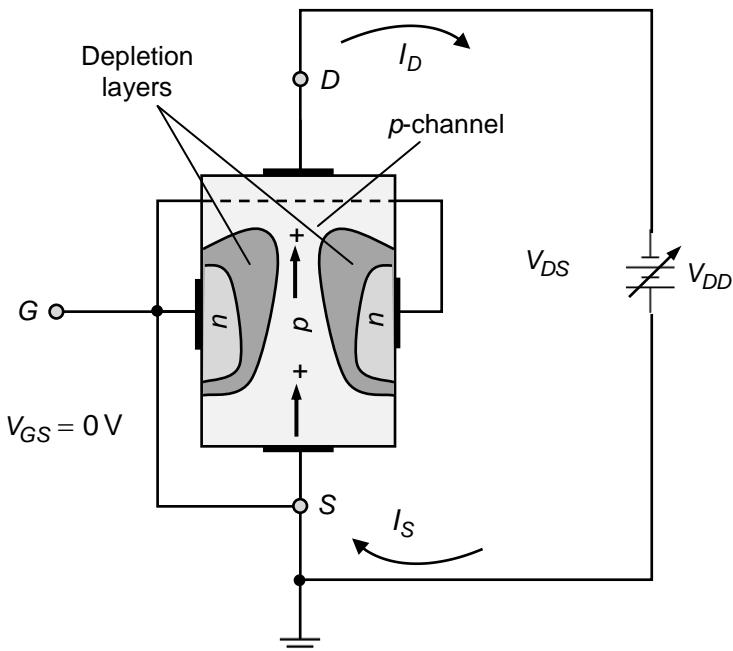

Fig. 3.19: Circuit diagram for *p*-channel JFET when $V_{GS} = 0$ V.
4. a) The circuit diagram analogous to Fig. 3.9 for the *p*-channel JFET when $V_{GS} = 0 \text{ V}$ is shown in Fig. 3.19.